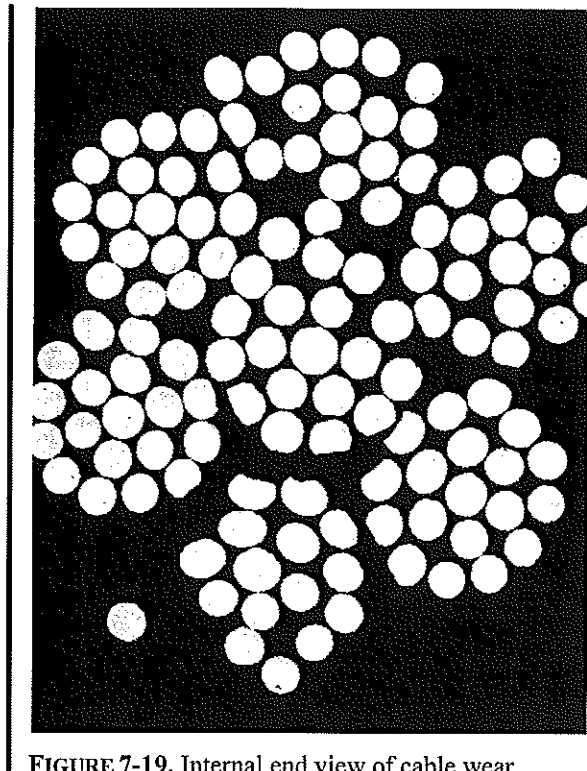

FIGURE 7-19. Internal end view of cable wear.
h. **As wear is taking place** on the exterior surface of a cable, the same condition is taking place internally, particularly in the sections of the cable which pass over pulleys and quadrants. This condition (shown in figure 7-19) is not easily detected unless the strands of the cable are separated. This type of wear is a result of the relative motion between inner wire surfaces. Under certain conditions, the rate of this type of wear can be greater than that occurring on the surface.